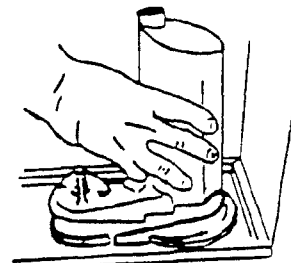

Fig. 3
5. Lock pump housing in the bowl by pushing housing straight into bowl location until it snaps into position. Press down on top of the impella section to assure it is down all the way into well section (*see Fig. 3*).